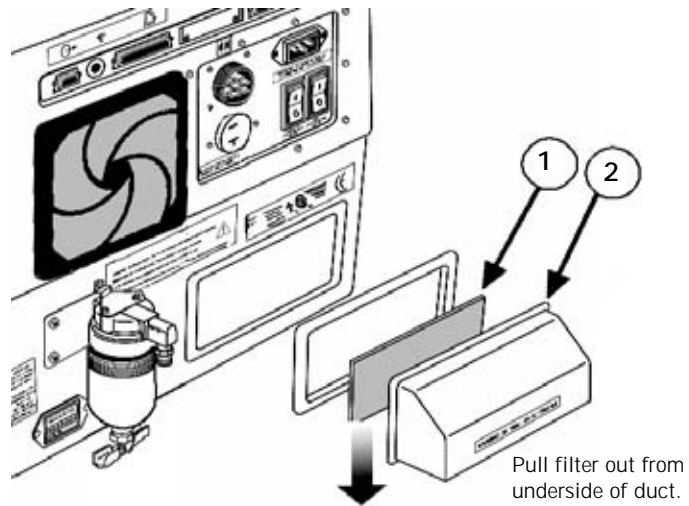

Figure 10-6: Removing and Replacing Internal Air Source Inlet Filter
Refer to Figure 10-6. Figure 10-6 shows exploded view of the duct (2) and filter (1), but it does not have to be disassembled.
1. Move the ventilator so that there is easy access to the underside of the internal air source duct (2).
2. The internal air source filter (1) can be removed manually. The filter can be reached from under the internal air source duct (2) as indicated by the arrow.
3. Wash internal air source filter (1) with mild soap and water.
5. Reinstall internal air source filter (1) from underneath the duct (2) in the same fashion it was removed.